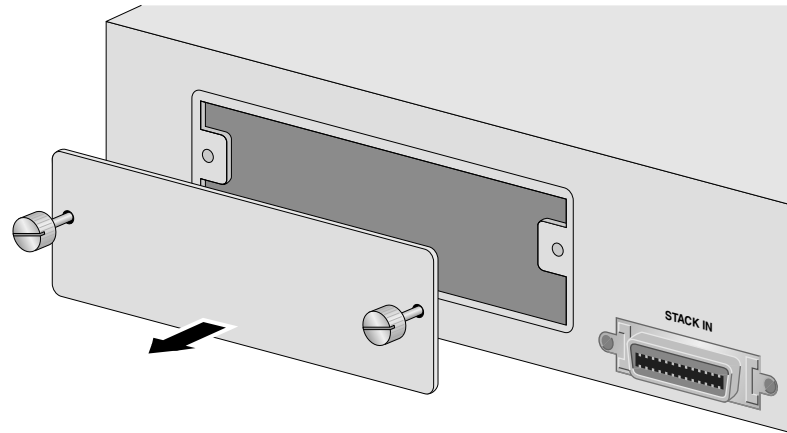

Figure 35 Removing the Expansion Slot Faceplate
4. To remove the expansion slot faceplate, carefully loosen the installation screws found on the left and right sides of the faceplate, as displayed in Figure 35.